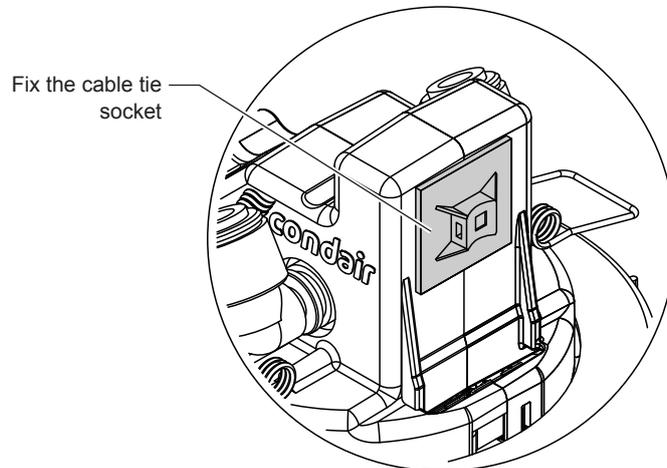

Fig. 30: Fixing the self-adhesive cable tie socket
- Fix the self-adhesive cable tie socket (service accessory) to the side of the spray head with the cable connections as shown in Fig. 30. Plug in the two cables and secure them to the cable tie socket with a cable tie.